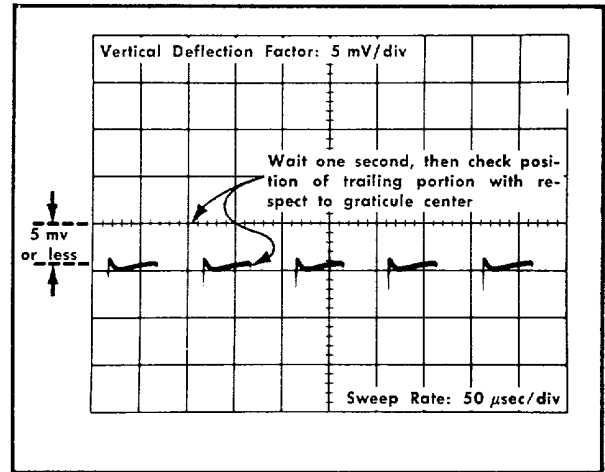

Fig. 5-26. Checking input A overdrive dc shift.
d. Set the input A AC-DC-GND switch to DC. Check the position of the display. The trailing portion of each cycle should be within 5 mV (1 div) or less with respect to graticule center one second after the switch was set to DC (see Fig. 5-26)